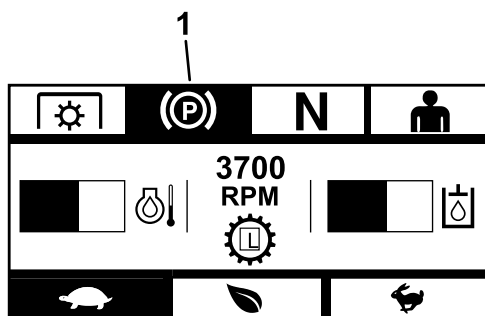

Figure 8
**Note:** When the parking brake is activated, the parking-brake symbol appears on the display (Figure 8).